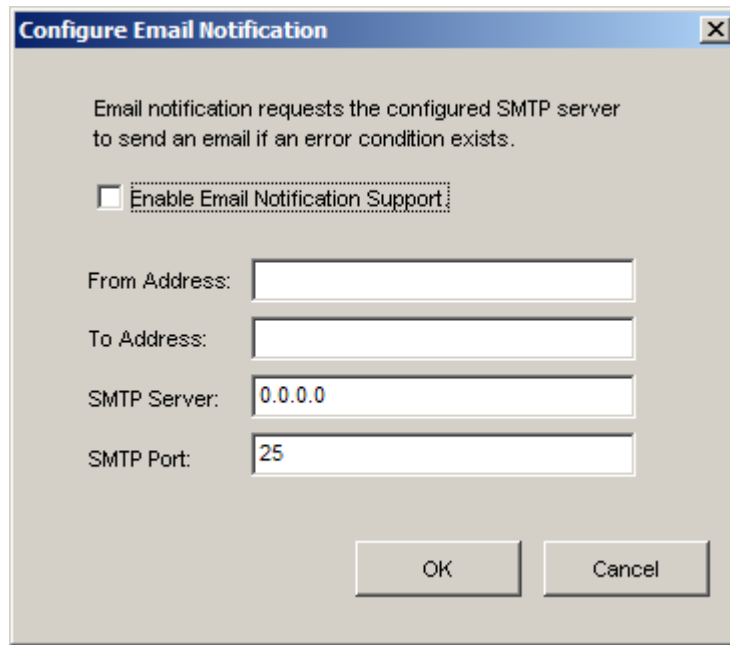

Figure 5-11 Configure Email Notification Dialog Box
2. On the File menu, click Configure Email Notification. The Configure Email Notification dialog box appears (see Figure 5-11).